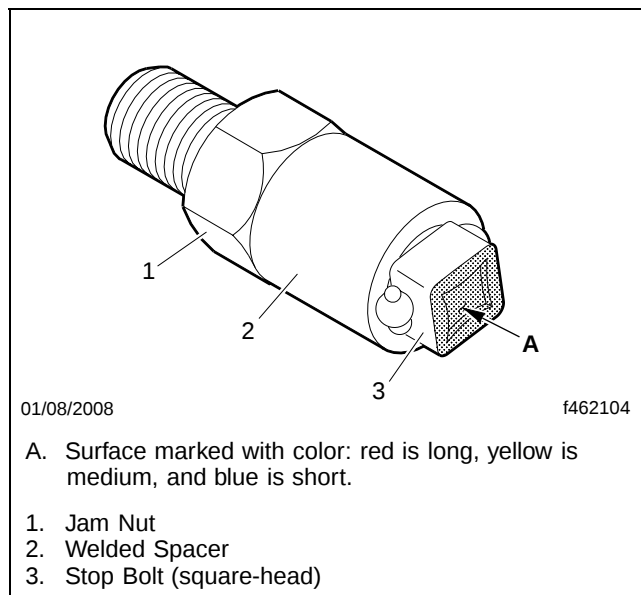

Fig. 3, New Axle Stop Bolt
13. If not already done, hand-tighten the jam nut against the welded spacer before installing each stop bolt. See **Fig. 3**.